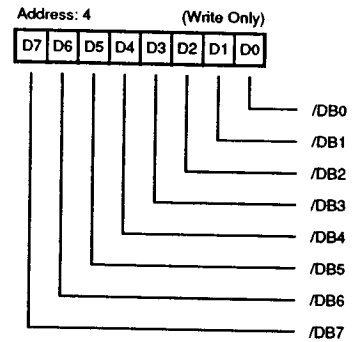

Figure 13. Select Enable Register
**Select Enable Register. Address 4 (Write Only).** The Select Enable Register (Figure 13) is a write-only register which is used as a mask to monitor a signal ID during a selection attempt. The simultaneous occurrence of the correct ID bit, /BSY FALSE, and /SEL TRUE will cause an interrupt. This interrupt can be disabled by resetting all bits in this register. If the Enable Parity Checking bit (Mode Register, bit 5) is active (1), parity is checked during selection.